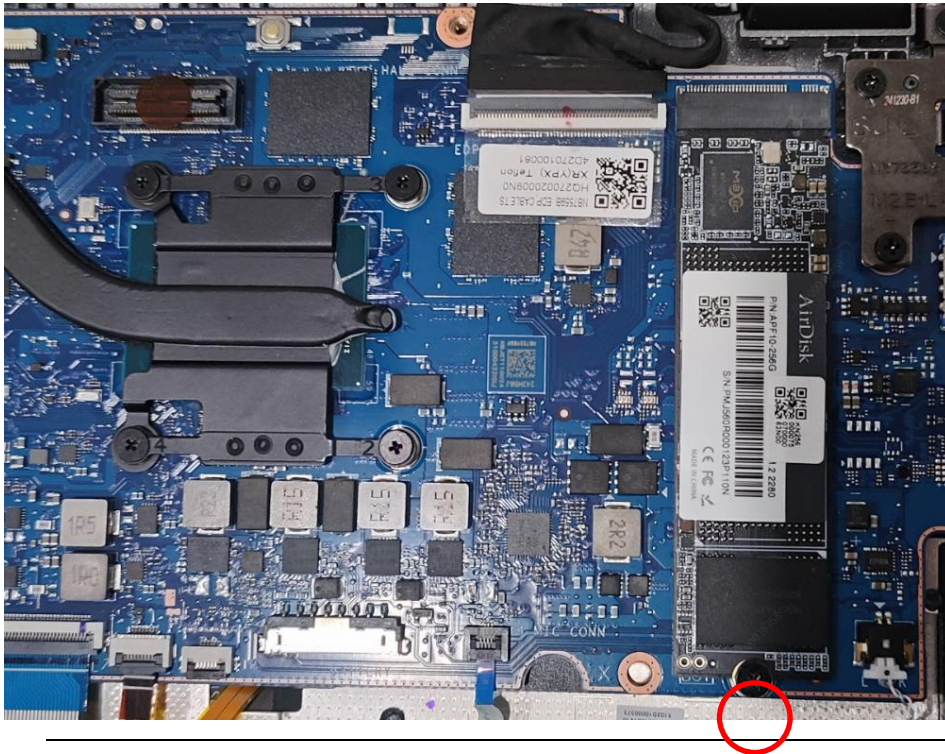

Figure 3-15. SSD Removal
1. Unscrew the screws on the MB. (Figure 3-15).